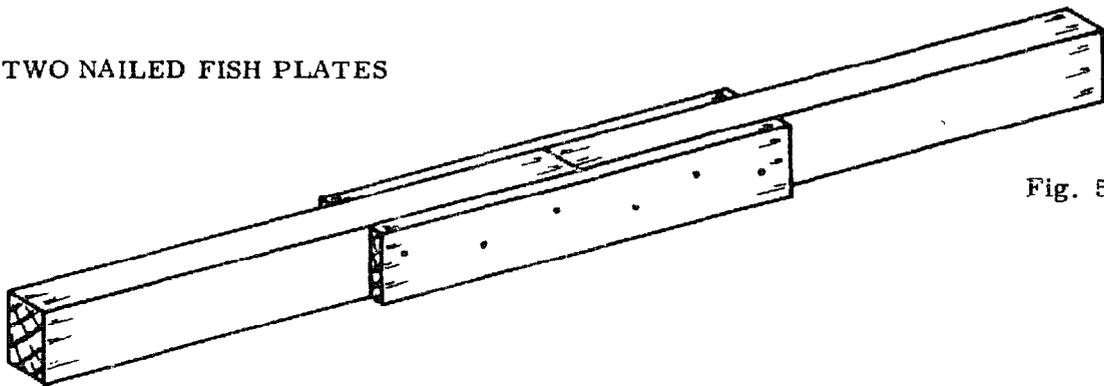

Fig. 5
- SHEAR STRESS IN A JOINT WITH TWO FISH PLATES: When two nailed fish plates are used (Fig. 5) to join the members together, the nails tend to shear at two points. The joint is said to be in double shear (Fig. 6).